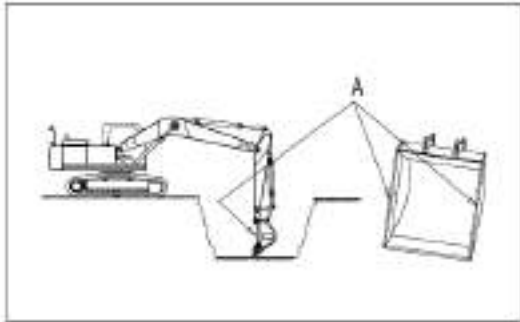

Figure 5-4 Digging steps for trapezoidal bucket (I)
line at the side plate of the bucket (A) vertical to the ground, as shown in Figure 5-4.